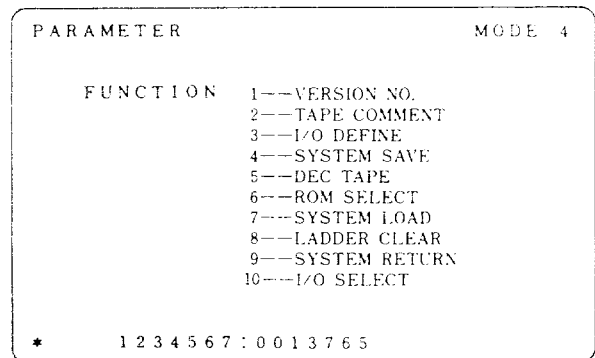

Fig. 9.33
- (c) Key-in a comment in 10 characters or less. The keys shown shaded in Fig. 9.33 are usable.